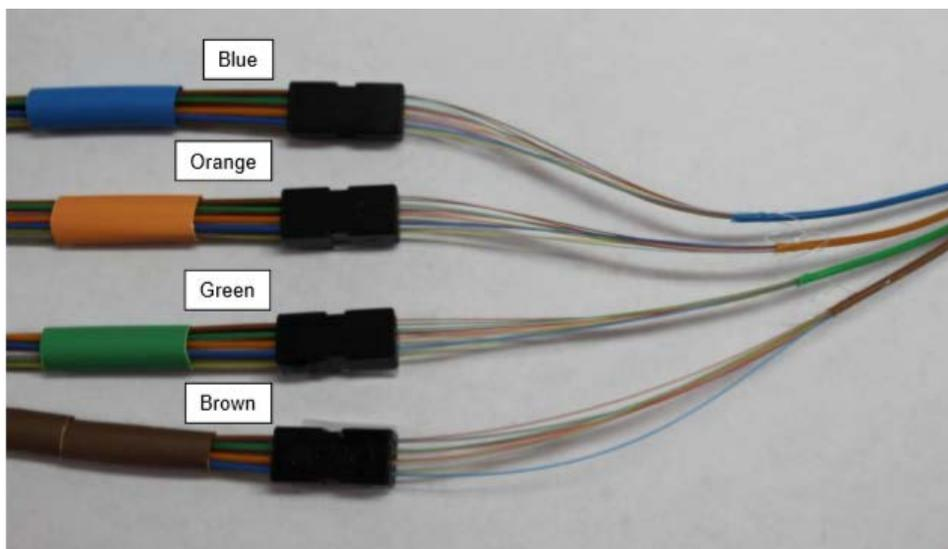

Figure 8
6.6 Repeat the process with the Orange, Green, and Brown breakout kit sub-units. All four should now look like **Figure 8**.